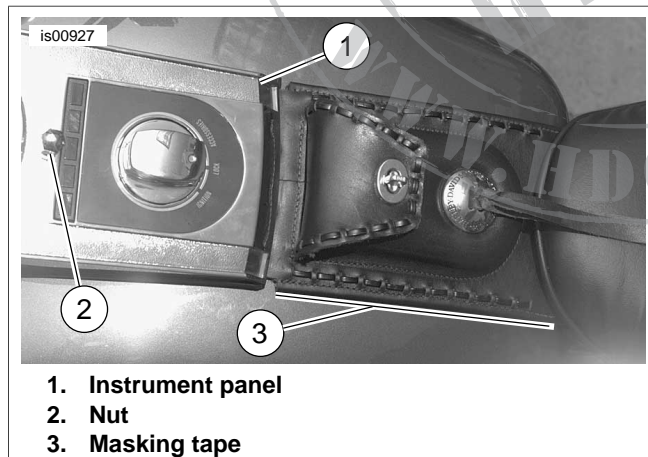
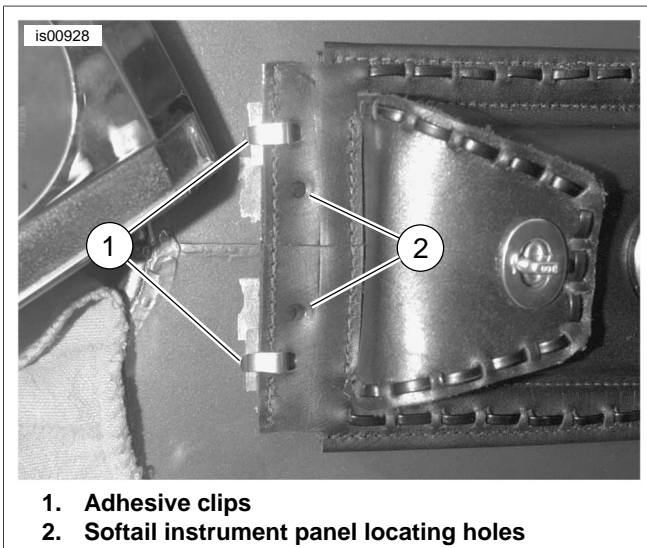
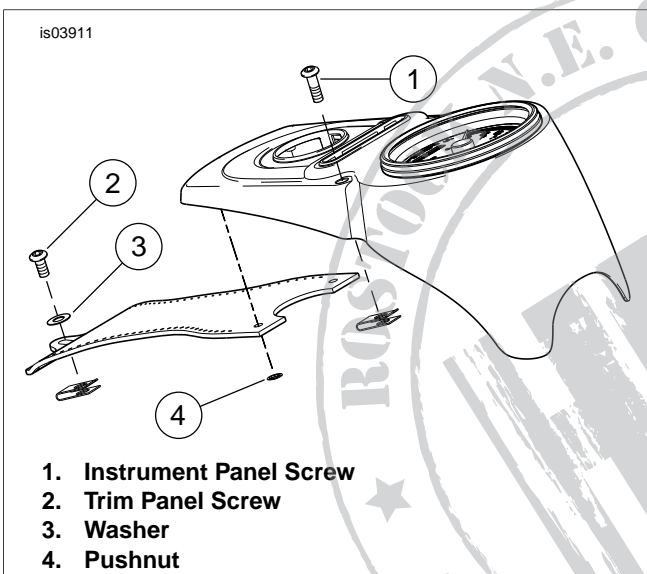

Figure 1. Leather Fuel Tank Panel Installed
Figure 3. Adhesive Clips At Front Of Panel
Figure 4. Tank Panel-2004 & Later Dyna Fitments
2. See Figure 1. Remove nut (2) securing instrument panel (1). Gently lift instrument panel up and turn it so stock fuel tank panel front end is uncovered.
7. See Figure 1. Install instrument panel (1) and tighten nut (2) to 8 ft-lb (11 Nm).
2. **1993-2003 Models:** Figure 1. Remove nut (2) securing instrument panel (1). Gently lift instrument panel up and turn it so stock fuel tank panel front end is uncovered. **2004 and later Models:** See Figure 4. Remove two screws (1) securing instrument panel.
4. **1993-2003 Models:** See Figure 3. Remove O-ring securing rear end of stock leather fuel tank panel (note position of O-ring). Open metal tabs on adhesive clips at front end of stock leather fuel tank panel and remove stock tank panel.
**2004 and later Models:** See Figure 4. Remove lower mounting screw (2) and washer (3) and set aside to reuse. Lift instrument panel and carefully remove pushnuts (4)
10. See Figure 1. Align the leather fuel tank panel with the instrument panel (1). Mark the location on the fuel tank with masking tape (3) placed along the side of the tank panel. Also mark location of top edge.
11. Remove the instrument panel (1) from the tank.
12. See Figure 3. Install adhesive clips (1) on leather fuel tank panel and remove paper backing from adhesive pads.
14. **1993-2003 Models:** See Figure 1. Install instrument panel (1) to fuel tank and tighten nut (2) to 8 ft-lb (11 Nm).
**2004 and later Models:** See Figure 4. Install instrument panel using screws (1) to fuel tank. Tighten screws to 18-24 in-lb (2.0-2.7 Nm).